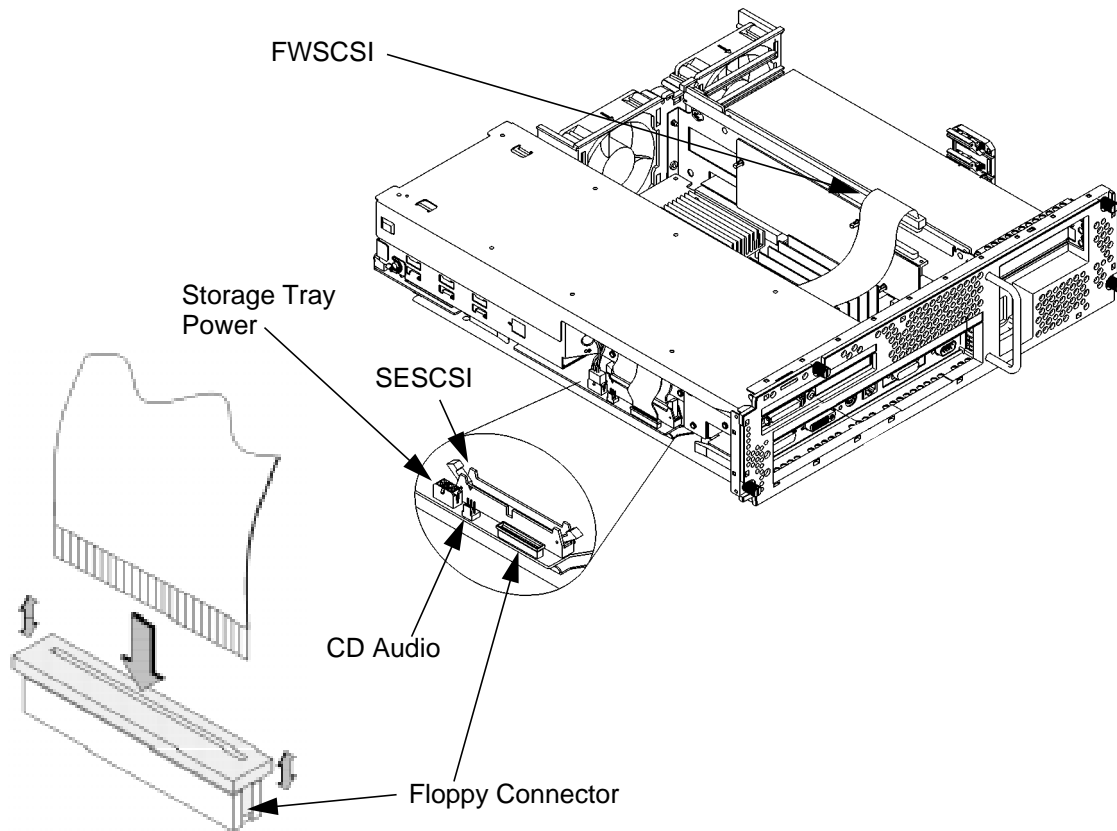

Figure 41 Connecting the Storage Tray Cables
- 5 Reconnect the floppy, SE SCSI, power, CD-ROM audio, and FW SCSI cables as shown in Figure 41. Reconnect rear-panel SCSI connector terminators, if necessary.